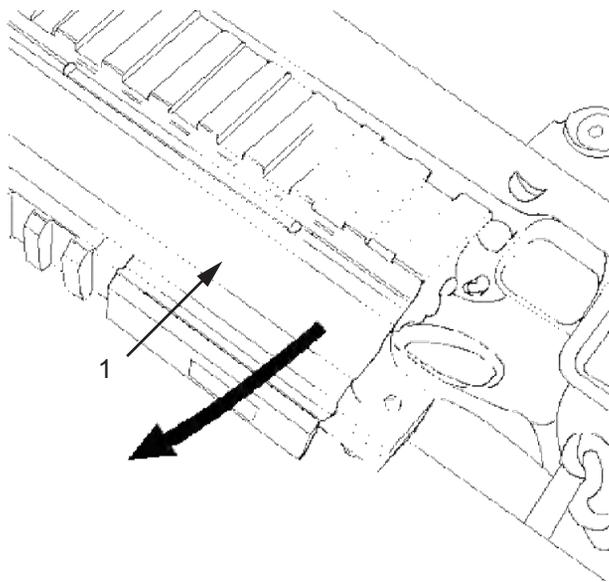

Figure 4. Right Side Rail Adapters.
4. Remove the left and right side rail adapters (Figure 4, Item 1).